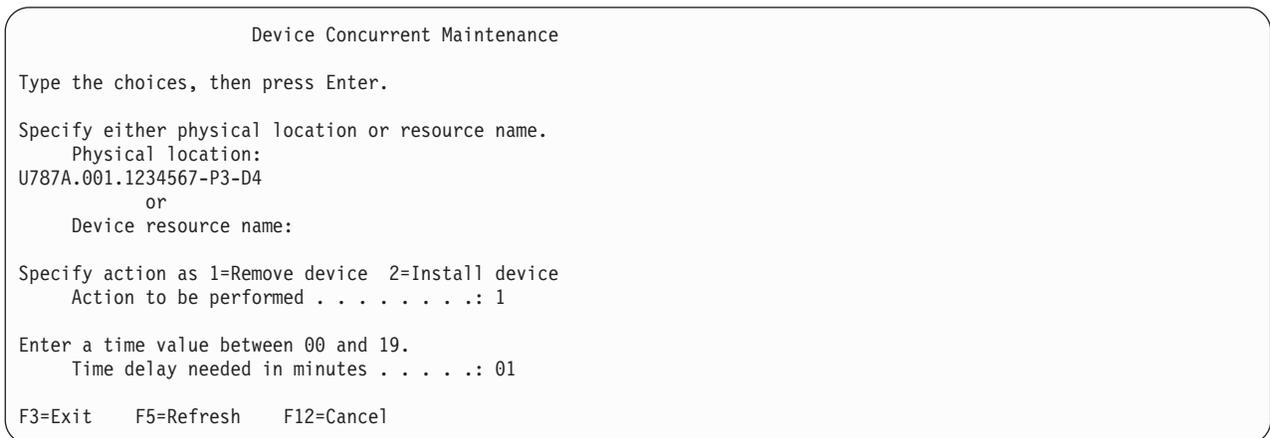

Figure 58. Example Device Concurrent Maintenance display
6. If the physical location does not appear in the Device Concurrent Maintenance display, type the physical location where you will be replacing the disk drive as shown in the preceding example, Figure 58.